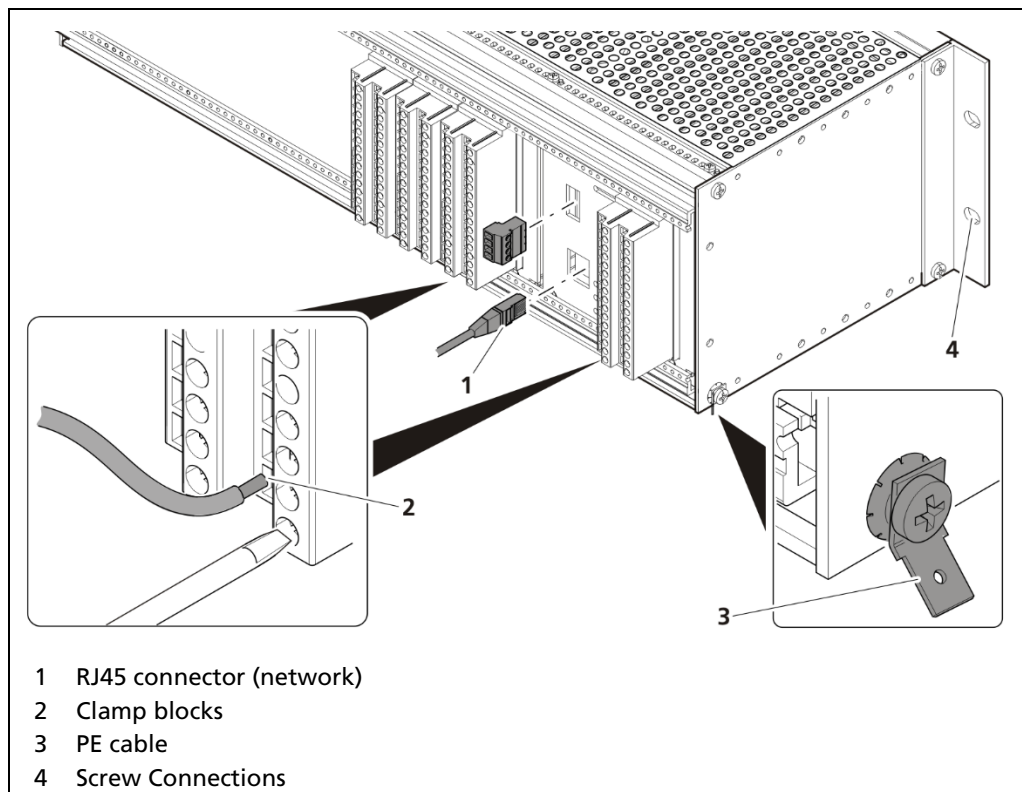

Fig. 133 Decommissioning 19" subrack
2. Remove the network plug (Fig. 133, item 1).
3. Remove all lines from the clamp blocks (Fig. 133, item 2).
4. Remove the PE cable (Fig. 133, item 4).
5. Remove the connections (Fig. 133, item 4) and pull the subrack from the 19" rack.